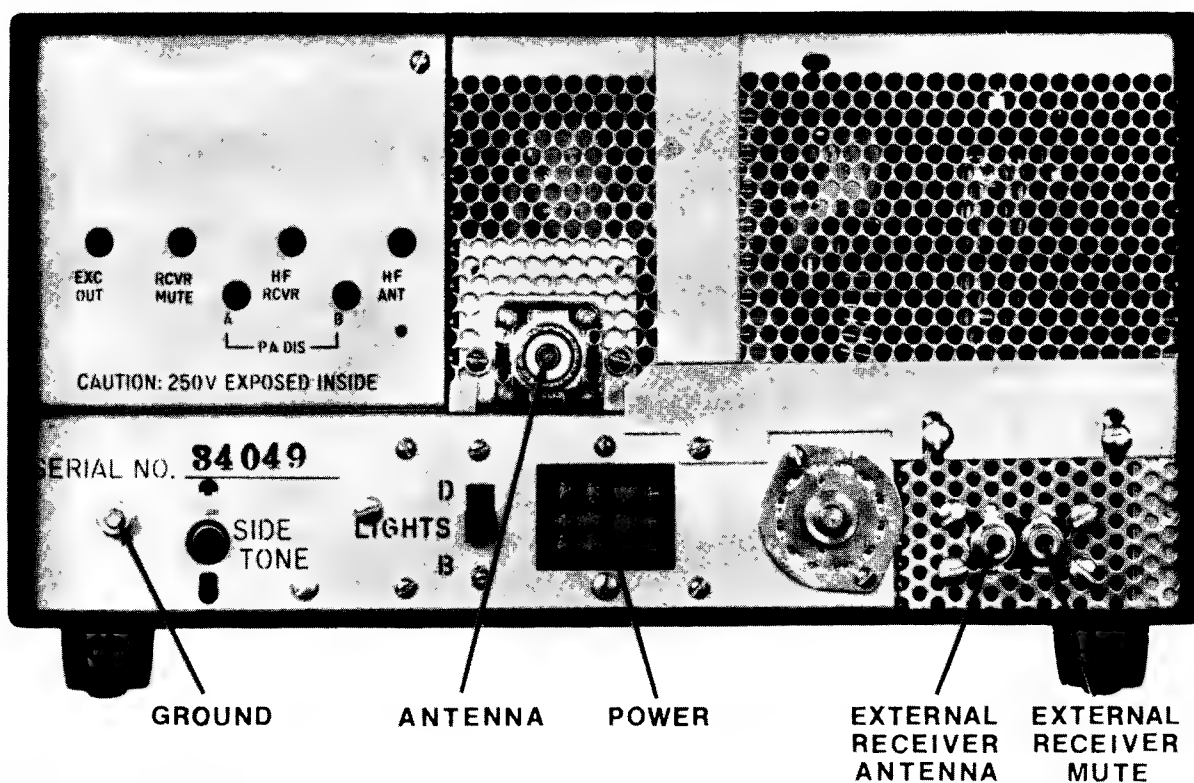
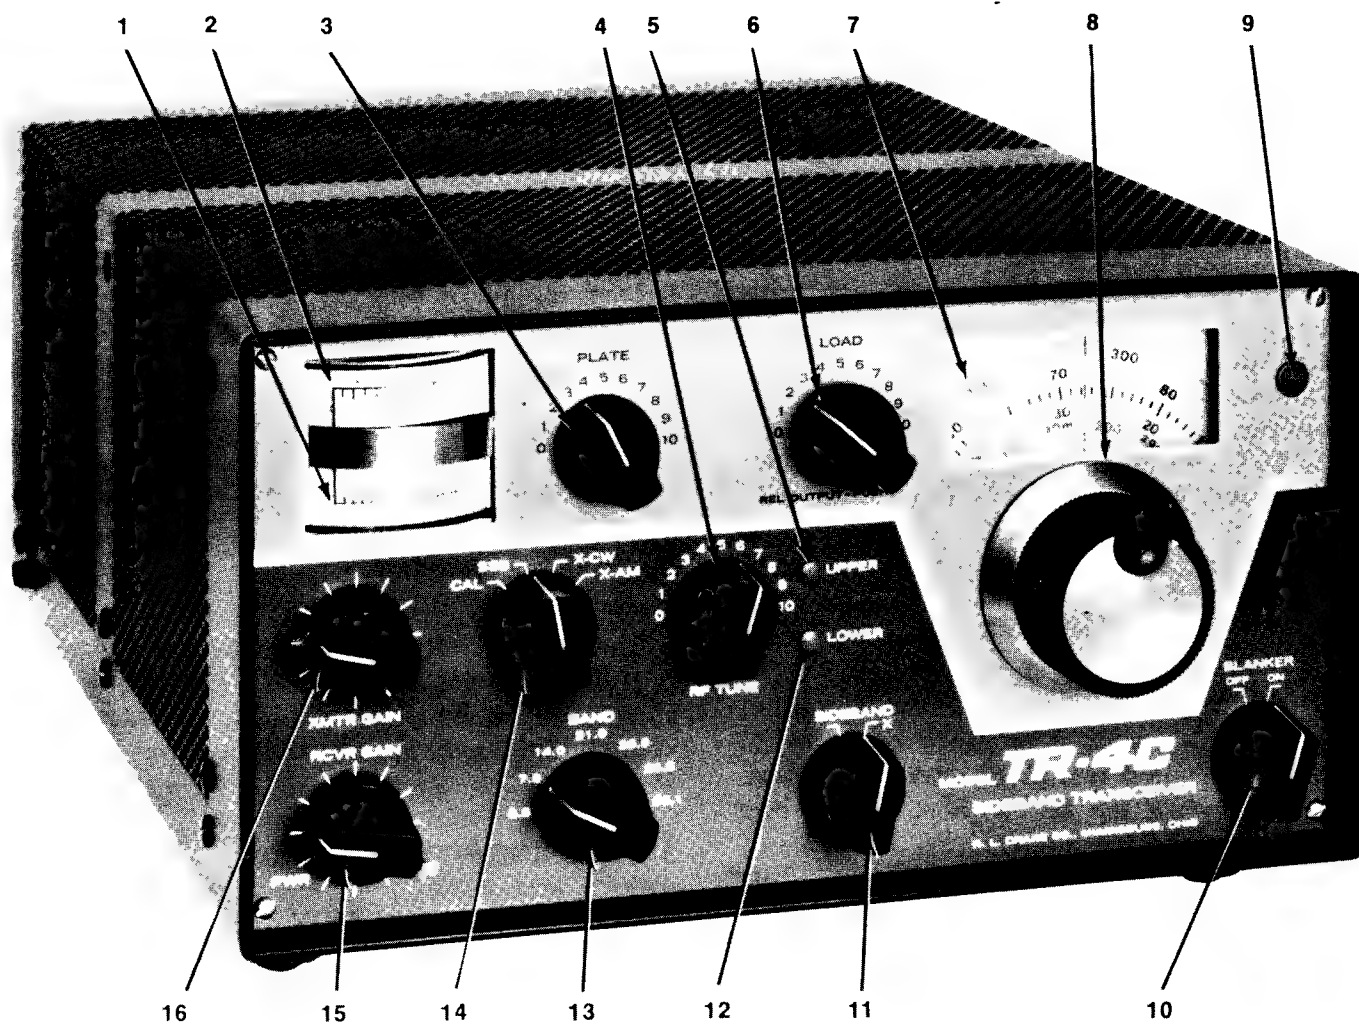

Figure 2-2. Rear Chassis Connectors
Figure 3-1. Front Panel Controls
**2-4. POWER REQUIREMENTS.** Refer to figure 2-2 for rear chassis connector identification. The TR-4C may be installed in any vehicle with a 12 volt dc negative ground system. An R. L. Drake Model DC-4 Power Supply is required for a mobile installation. The recommended location for the DC-4 is on the passenger side of the firewall. Refer to figure 2-3 for the electrical connections required.
Figure 3-1 illustrates and describes all front panel controls and indicators on the TR-4C Transceiver. Controls and connectors located on the rear and sides of the unit are described under "other controls" below. Rear chassis connectors are identified in figure 2-2.
### Rear Chassis (Refer to figure 2-2).